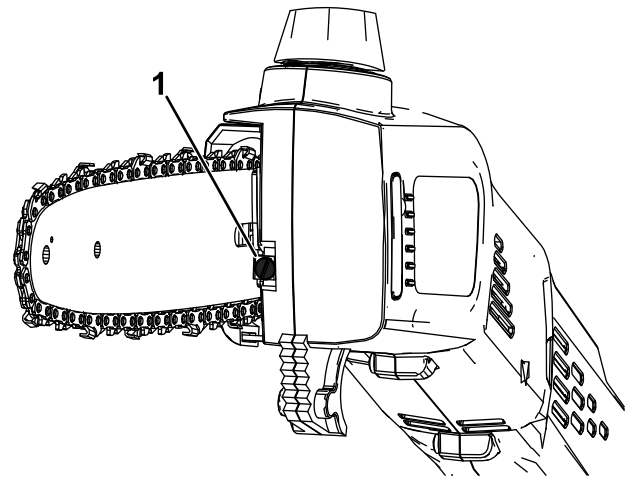

**Figure 17**
4. Turn the bar cover knob counterclockwise to loosen the bar cover, but do not remove it (Figure 17).
5. Adjust the chain tension using the chain tensioning screw (Figure 18), and then secure the side cover to the pole saw by turning the bar cover knob clockwise before checking the tension (Figure 17).